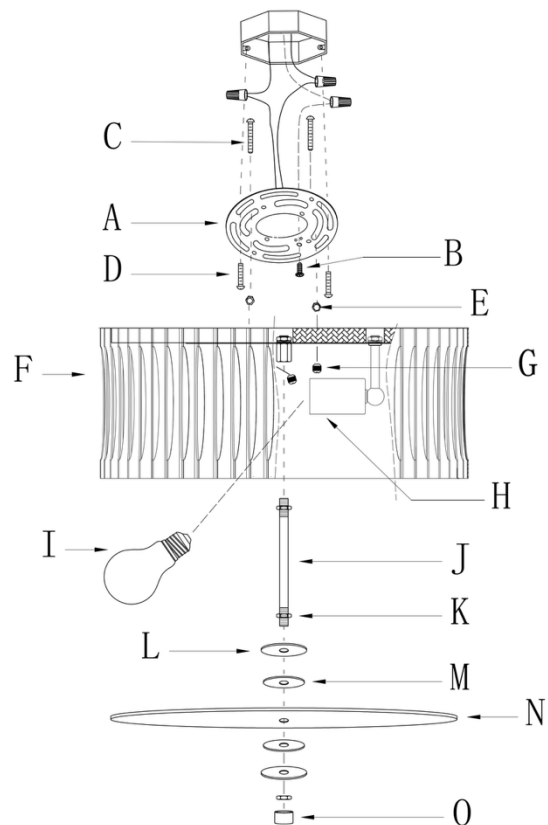

Fig. 2
CONNECTING THE WIRES (Fig. 2)
5. Connect electrical wires as shown in Fig.2, making sure that all wire connectors are secured. If your junction box has a ground wire (green or bare copper), connect the fixture's ground wire to it. Otherwise, connect the ground wire directly to the mounting plate (A) using the green screw (B) provided.